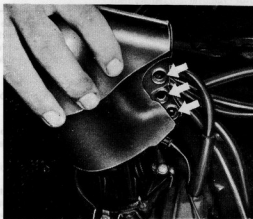

Fig. 4.1. Removing the distributor cap cover - arrows indicate the three press studs (Sec. 3)
- 9 Replace the plastic cover, then the rotor arm and finally the distributor cap with its plastic cover (Fig. 4.1).